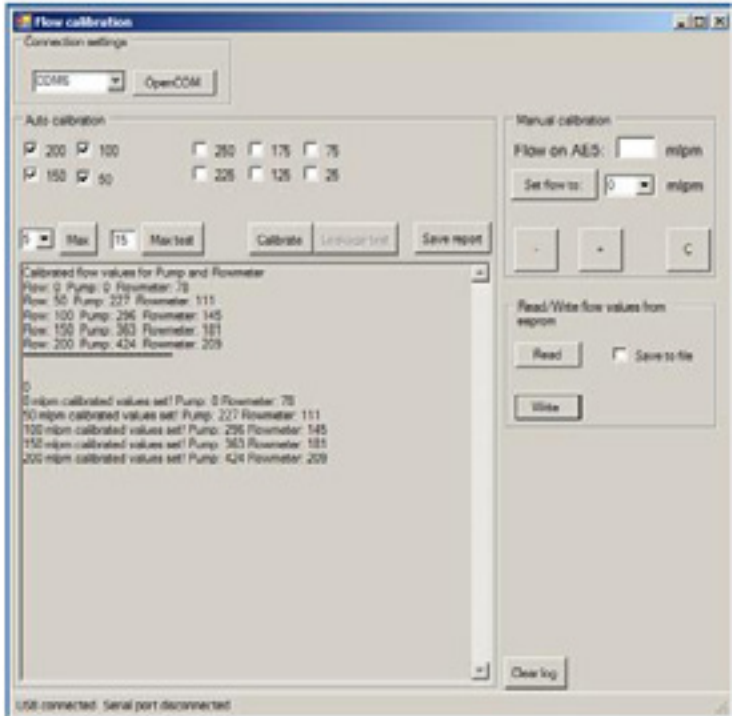

Figure 20: Flow Calibration Write Log screen example
- h. When the upload is complete, the communications log box in the software (left-hand center of screen) will acknowledge that the calibration parameters have been successfully uploaded and saved to the firmware (Figure 20).